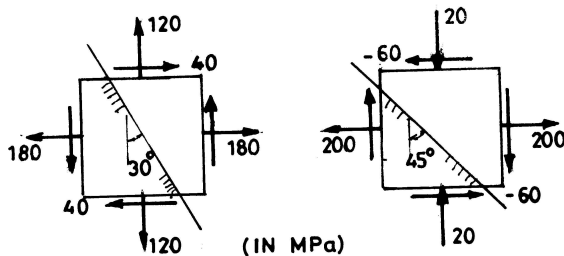

Fig. 2
2. For the elements illustrated in Fig. 2 calculate the stress components on the inclined planes.